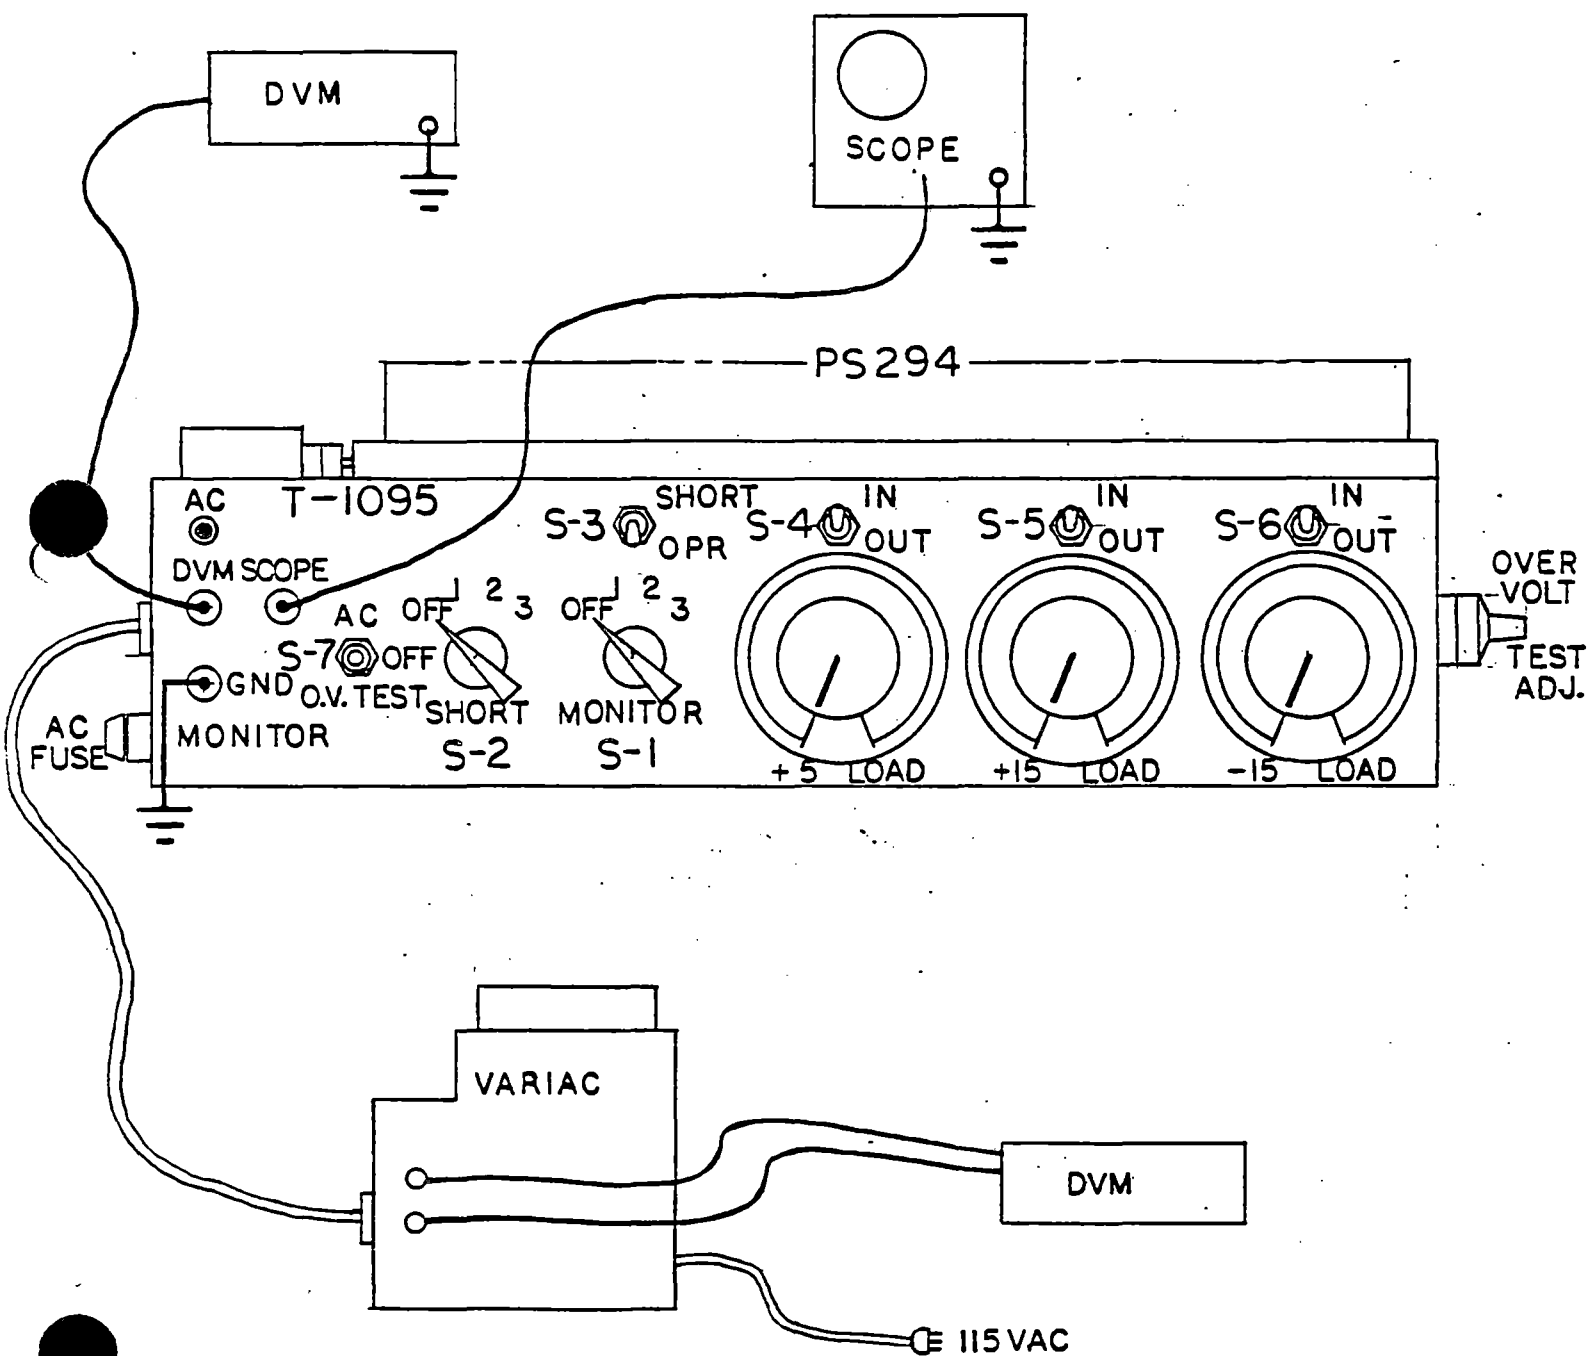

FIGURE 1
- 4.1 Connect PS294-Q2, digital voltmeters (DVM) and oscilloscope to the tester as shown in Figure 1. Set the output of the variac to the lowest dial setting and connect to the tester. Make sure S1 and S2 are in "OFF" position, S3 in "OPERATE" position and S4, S5 and S6 are in "OUT" position.